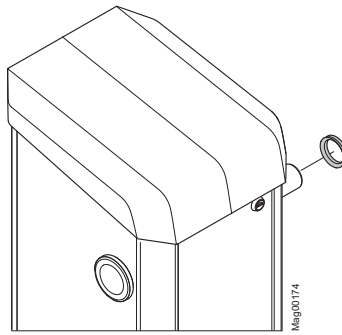

Fig. 32: Remove the v-ring
16. Slip the v-ring over the flange shaft. The sealing lip points towards the barrier housing. → See page 73, Fig. 32.